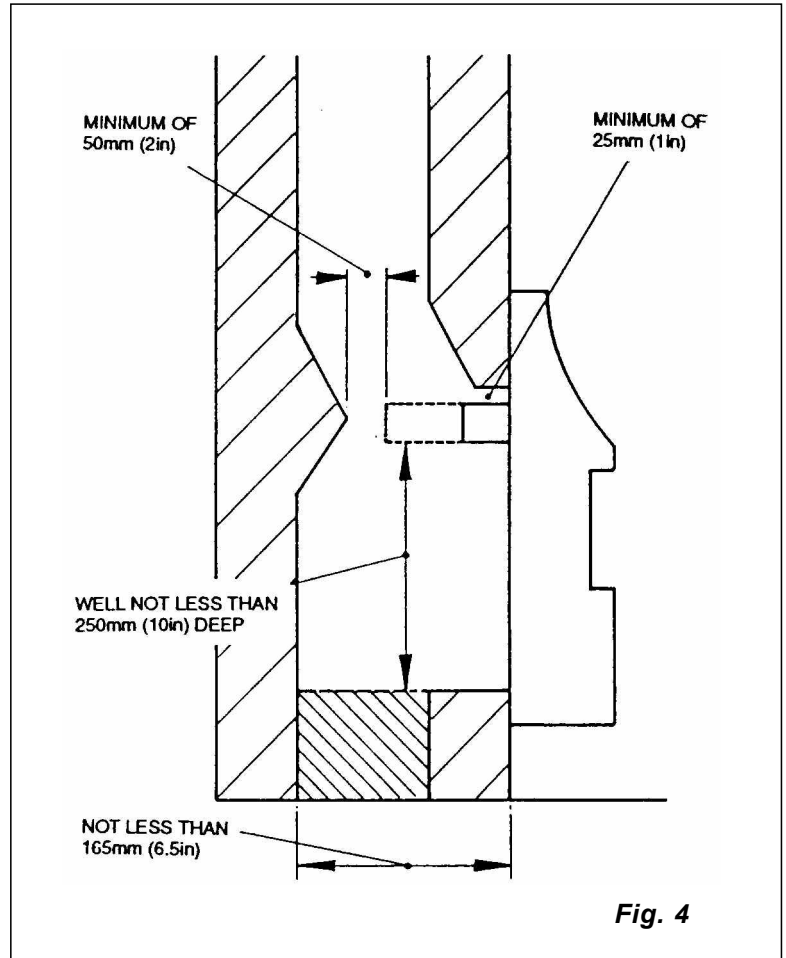

Fig. 4
### 2.2.1. Fireplace Dimensions (Fig. 4)
- (d) The top of the spigot opening in the closure plate (See Fig. 4) must be at least 25mm (1 in) below the top edge of the fire place opening.